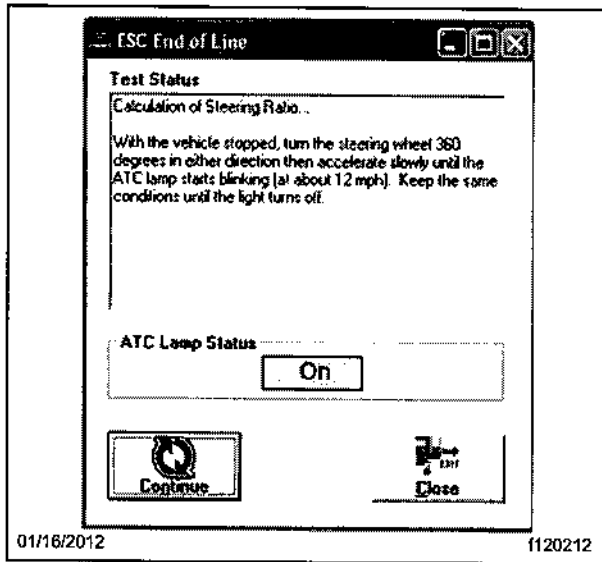

Fig. 15, Calculation of Steering Ratio
1. After completing the straight driving procedure, the next message will appear. Carefully read the message box and follow the instructions. See Fig. 15 .